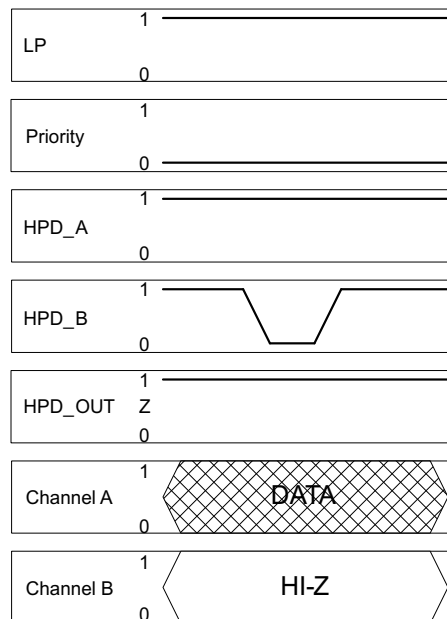

Figure 24.
- Case one: In this case the HPD input that is initially HIGH is from the port that has priority. Since the port with priority is already selected, any activity on the HPD input from the other port does not have any effect on the switch whatsoever (see Figure 24).